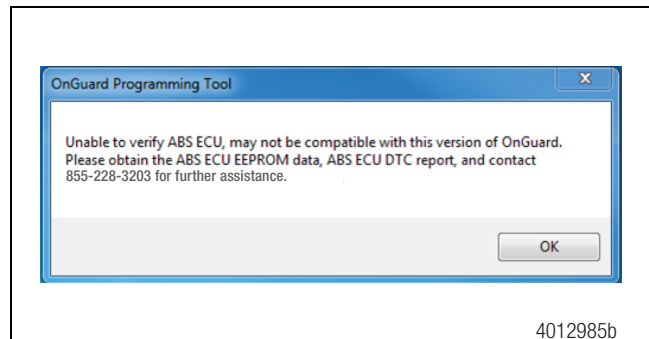

Figure 11
- C. If the OnGuard update tool is unable to recognize the ABS ECU, it may not be compatible with this version of OnGuard and the following message will appear. Please contact the WABCO Customer Care Center at 855-228-3203 with the ABS ECU EEPROM data and ABS ECU DTC report. Select "OK" to exit the OnGuard Update. Figure 11.